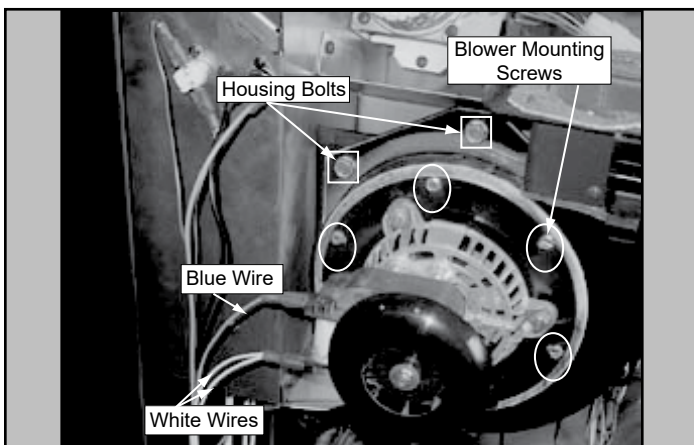

Figure 22.2
- Disconnect the white and blue wires from the blower. Remove blower mounting screws (not housing bolts), **Figure 22.2**, from blower housing and remove blower. The replacement blower is shipped with a housing. If you do not need the housing, discard it. If you do need to replace the housing you will also need to replace the gasket.